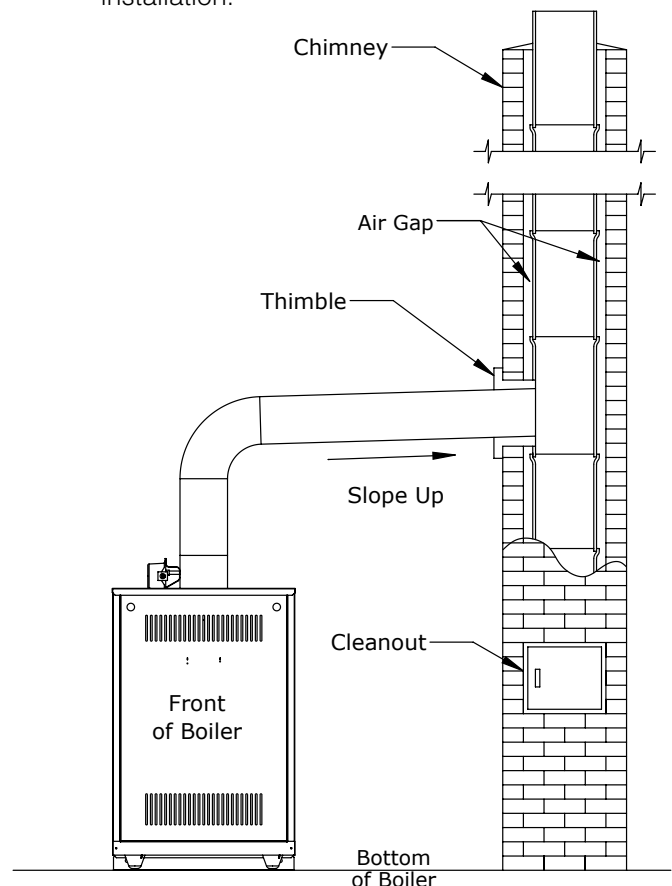

Figure 6-3: Typical Single Draft Hood Installation
- B. Install vent piping from vent damper outlet to chimney. See Figure 6-3 for typical vent installation.